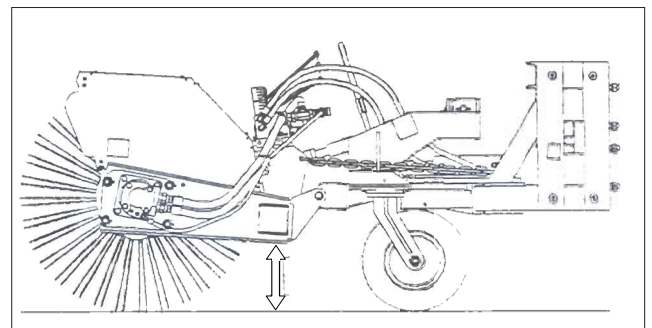

figure 2
6. On each side, measure from the brush frame to the ground (figure 2). If measurements are not equal: